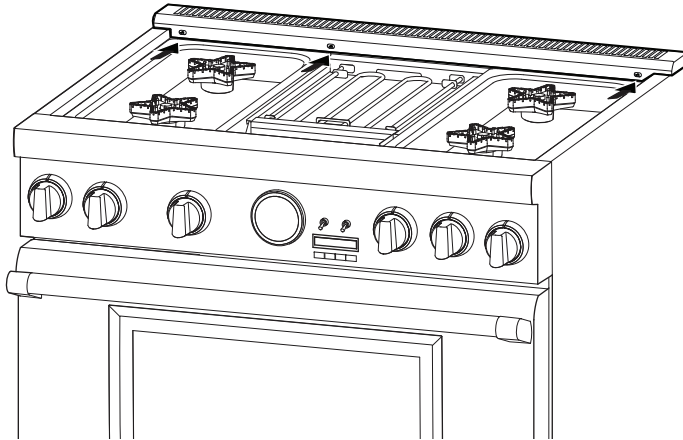

Figure 26: Flush Island Trim Front Face Screw Removal
1. Depending on model, remove the (3) or (5) T-20 Torx stainless screws in the front face of the included Flush Island Trim (*Figure 26*).